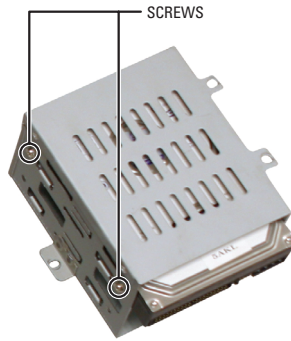

Figure 6. Removing the Hard Disk Drive
7. Remove the two screws on each side of the cage that hold the primary master drive in place (refer to Figure 6).